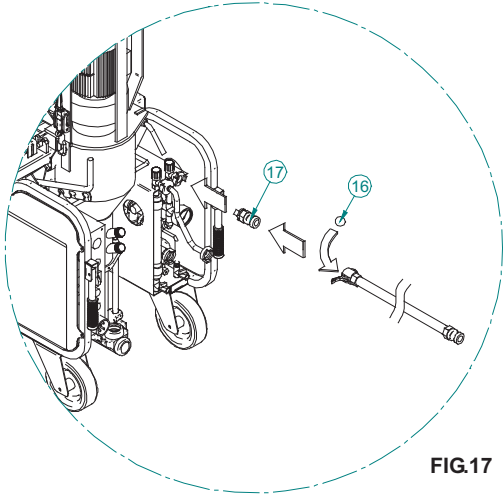

FIG.17
Remove the mixer and clean. Clean the mixing zone with a brush. Insert the scraper (ref.15) as shown in fig.17 , close the mixing chamber, turn the main switch to the work position and then operate the start selector switch .Leave running for 5-10 seconds, until the mixing chamber is completely clean.
Proceed with pipeline cleaning. Insert a washing sponge (ref.16) at the start of the pipeline, connect the material delivery hose to the mortar hose-water hose coupling (ref.17), and then connect the latter to the auxiliary water valve. Insert the water pump and open the auxiliary water valve until the washing sponge comes out from the other end (fig.17).